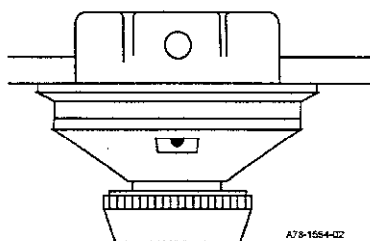

Figure 1. Flush Mounting of Detector on Octagon Box.
1. Units may be mounted directly to a 3-inch or 4-inch, 1-1/2-inch deep octagonal electrical box using the supplied mounting bracket (See Figures 1 and 2).